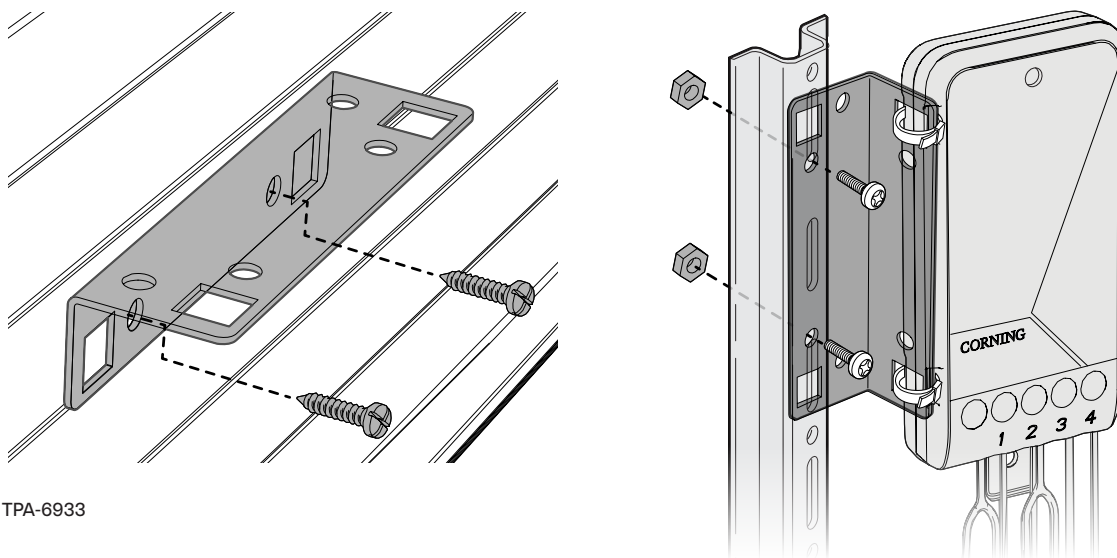

Figure 16
**Step 1:** Secure the bracket to the wall/pedestal using cable straps or 1/4-in (6mm) screws/bolts (Figure 16).